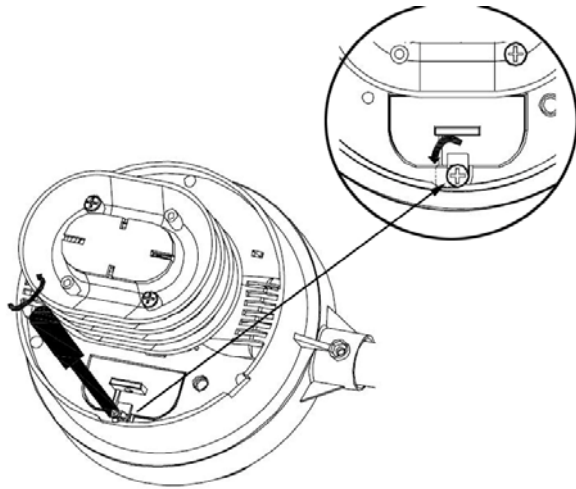

Figure1
1. Turn the screwdriver counter clockwise to loosen the screw, turn aside the sheet metal (figure 1)